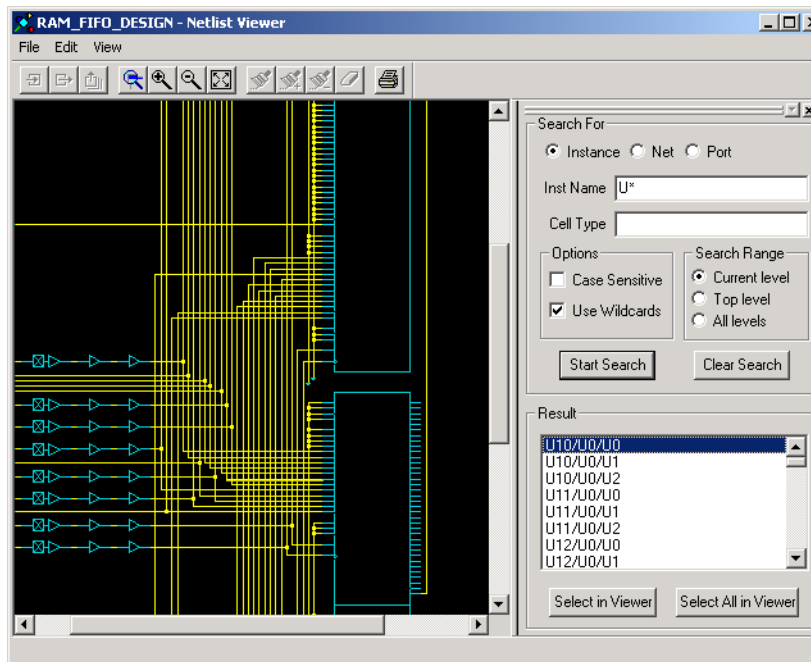

Figure 1-5. Search View Window
1. **From the View menu, click *Search Tool*.** The Search View Window opens to the right of the Schematic View window, as shown in Figure 1-5.